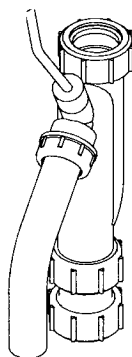

Fig. 28
6.19 CONDENSE TRAP (see fig. 28)
The temperature of the hot water outlet can be adjusted via the operating parameters (see 5.9). The boiler is also fitted with a flow-rate restrictor (see fig. 28) that limits the actual flow of hot water